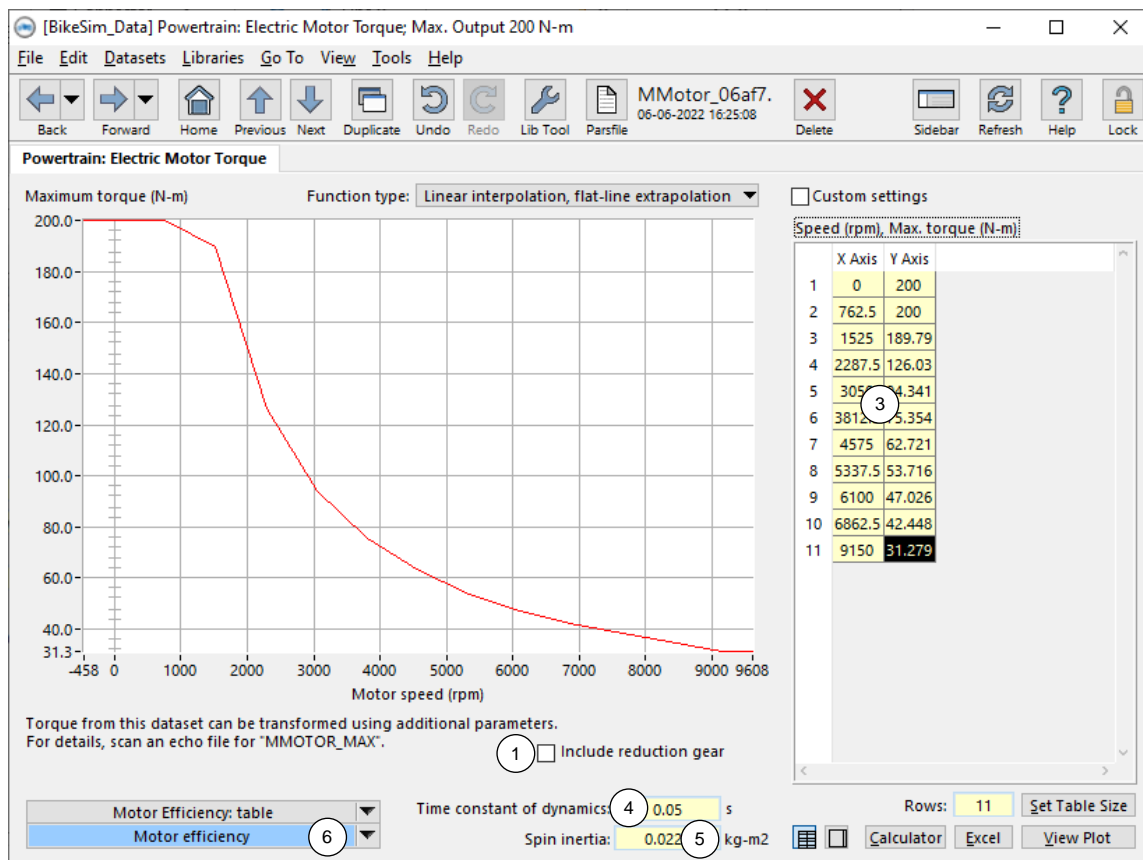

Figure 10. The Powertrain: Electric Motor Torque screen.
The way to calculate the electric motor output torque is described in the section: **Electric Motor and Generator** (page 6.) The motor output torque is limited by a lookup table (root keyword = MMOTOR_MAX) which is specified on the **Powertrain: Electric Motor Torque** screen as shown in Figure 10. The screen is accessible from the **Powertrain: Hybrid/Electric System** screen (Figure 2) or differential screen if the option for motors on drive axes (② in Figure 2) is checked in CarSim and TruckSim.
- ① Optional checkbox to include reduction gear. When this checkbox is unchecked as shown in Figure 10, the motor speed and motor torque output are applied in the vehicle model as specified by the tabular data ③ without any modification.